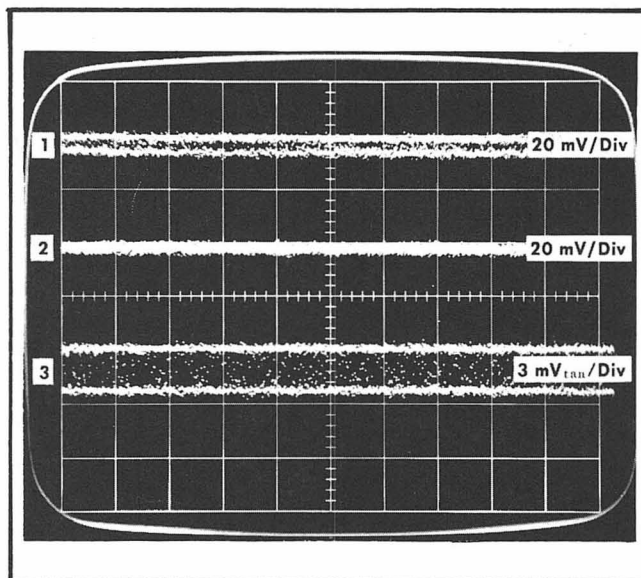

Fig. 5-13. Triple exposures of Tangential noise measurements, Step 11.
e. Refer to Fig. 5-13 during the following noise measurement procedure.
(1) Obtain a display (1) of two traces. Adjust the variable attenuator until the two traces blend together just to the point (2) at which they appear as one trace.
Set the Type 284 Square Wave Amplitude control to 1.0 V ( $\times 10$  signal amplitude). The display (3) now has a tangential deflection factor of 3 mV/div. ( $E_{\text{tangential}}$  per division is equal to the Type 3S2 units/div setting of 20 mV divided by 2, times 3 divided by 10 = 3 mV/div). Therefore, the 6 mV tangential noise limit includes 2 graticule divisions (3) of Fig. 5-13. Check that the two trace's bottom edges are not more than 2 divisions apart. Waveform (3) of Fig. 5-13 measures as about 2.4 mV tangential noise.
The noise displays (3 of Fig. 5-13) have a noise deflection factor based upon the signal amplitude, the Type 3S2 Units/Div switch setting, the fact that the final trace separation is twice the RMS noise, and that the tangential noise is then 3 times the RMS noise. The square wave signal amplitude that makes two traces appear as one sets the trace separation to twice the RMS noise. The procedure used here then